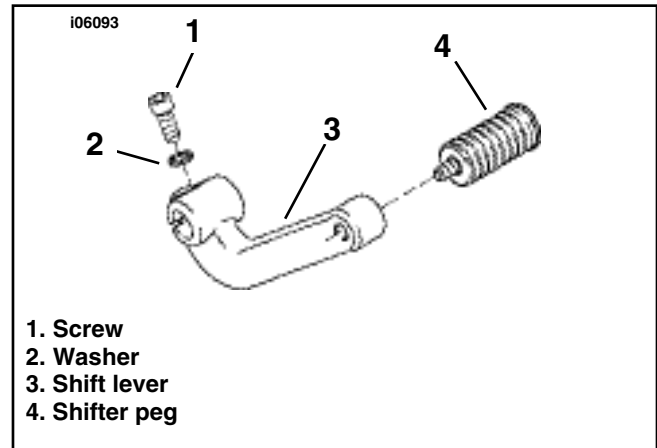

Figure 1. Shift Lever Components
1. See Figure 1. Remove shifter peg (4) from shift lever (3) by unthreading counterclockwise. If not damaged, save for installation.
2. Remove screw (1) and washer (2) securing shift lever (3) to shifter shaft. Pull lever straight off of knurled shaft.
3. See Service Parts Illustration. Obtain new shift lever (1) from kit and align shift lever for comfortable shifting. Install existing washer removed from step 1 and new screw (2). Tighten screw to 16-20 ft-lbs (21.7-27.1 Nm).